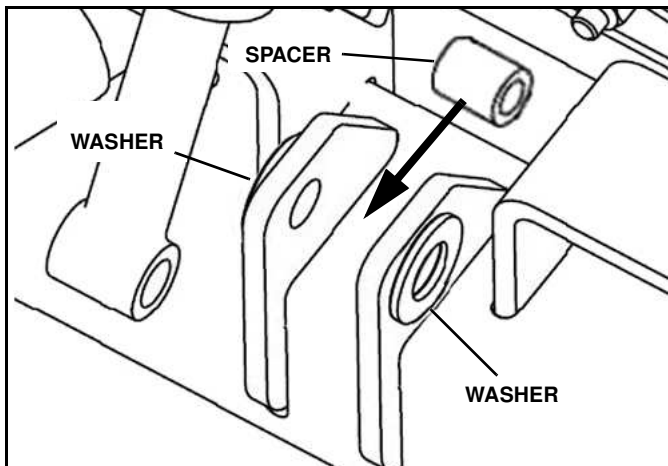

Figure 1-25
- e. Two washers (p/n 98009030) and one spacer (p/n 96112873) will be placed as shown in the following steps. (See Figure 1-25).